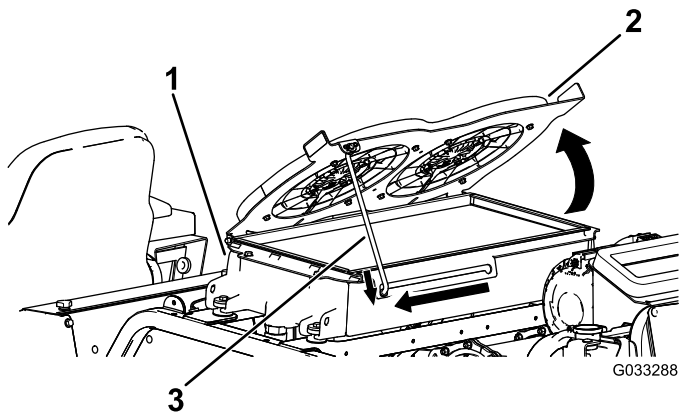

Figure 116
2. Pivot the hydraulic-cooling fans upward and lock the prop rod into the notch (Figure 116).